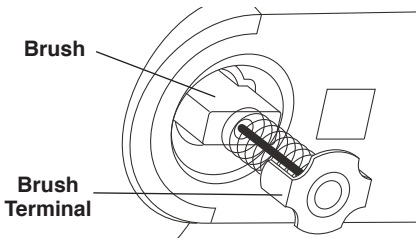

Figure 43. Motor Brush
3. Pull out the brush (Figure 43). Repeat for the opposite side.